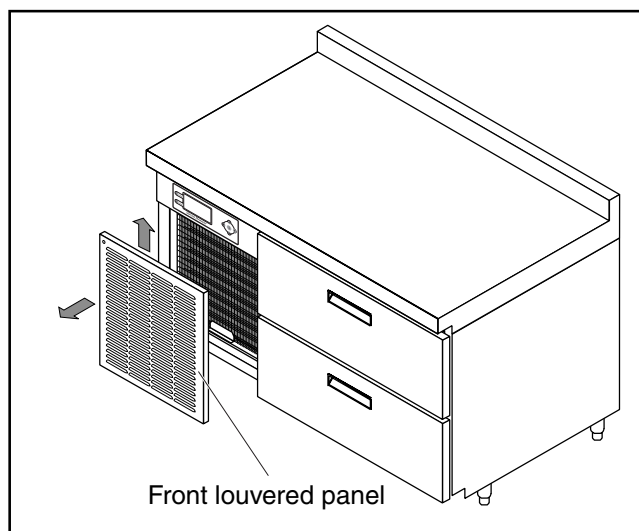

Figure 1. Front Louvered Panel
1. Lift up on louver from bottom and pull away from unit (Figure 1).